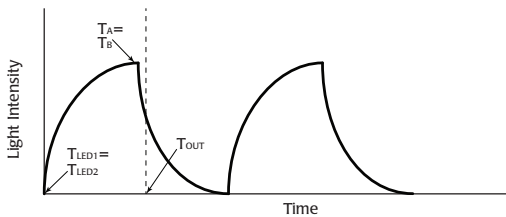

Fig. 8—A dual emission dye uses two photo sensors that capture simultaneously.
- Dual Emission Dyes—Data is captured using two photo sensors which capture at the same time (Fig. 8).